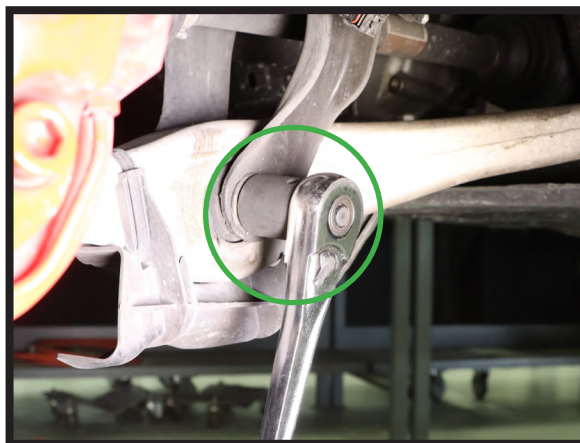

FIGURE 10
12. REMOVE THE BOTTOM STRUT MOUNT BOLT. (FIGURE 10)